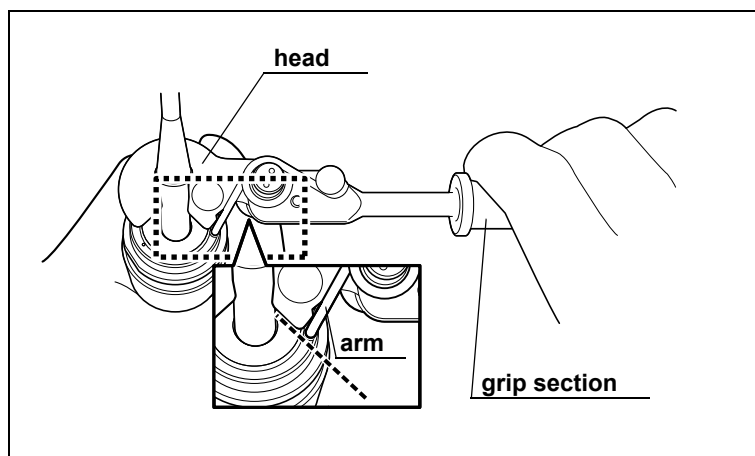
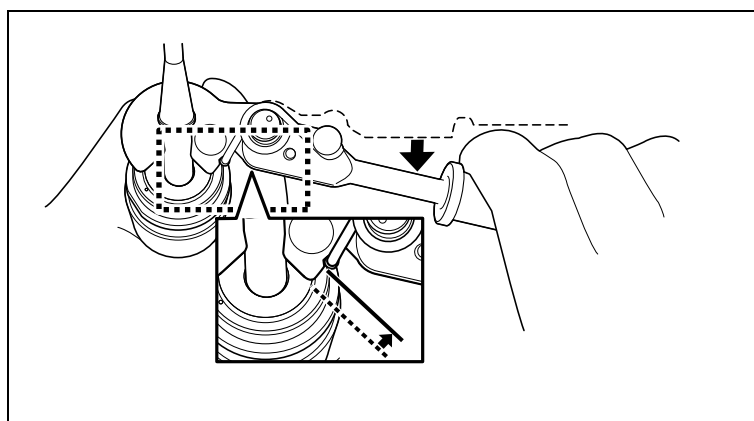

Figure 4.3
Figure 4.4
2. Attach the torque wrench (marked with “This side up”) to the notch of the probe (see Figure 4.3). Then turn the torque wrench by holding it on the grip section until the head stops and the arm moves. When the head stops lower tension is felt (see Figure 4.4).